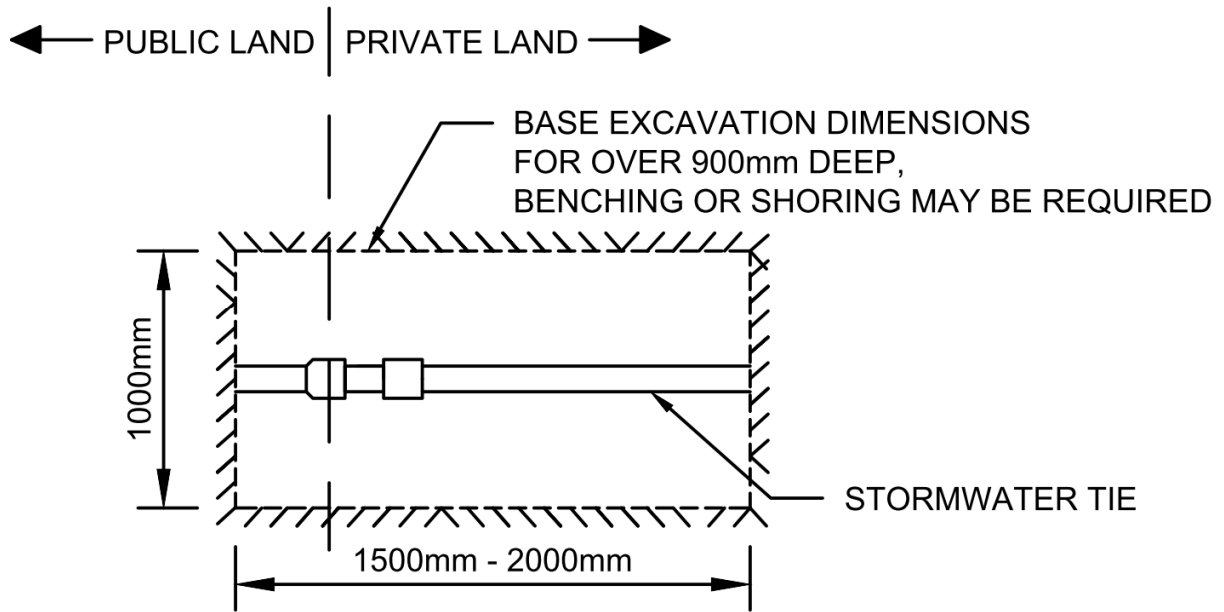

Figure 6 – Plan View of Excavation Base Size for >900mm Depth
- (b) Excavation depth of over 900mm requires at least a 1 metre by 1.5 metre excavated base to expose the stormwater tie; with the length increasing proportionally with depth as required. See Figure 6 – Plan View of Excavation Base Size for >900mm Depth.